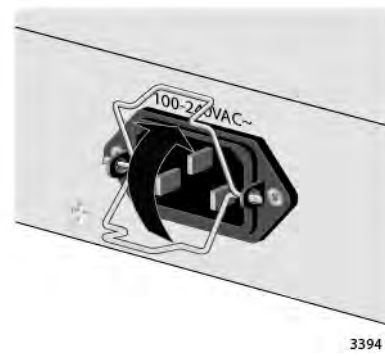

Figure 35. Raising the Retaining Clip
2. Raise the retaining clip. See Figure 35.